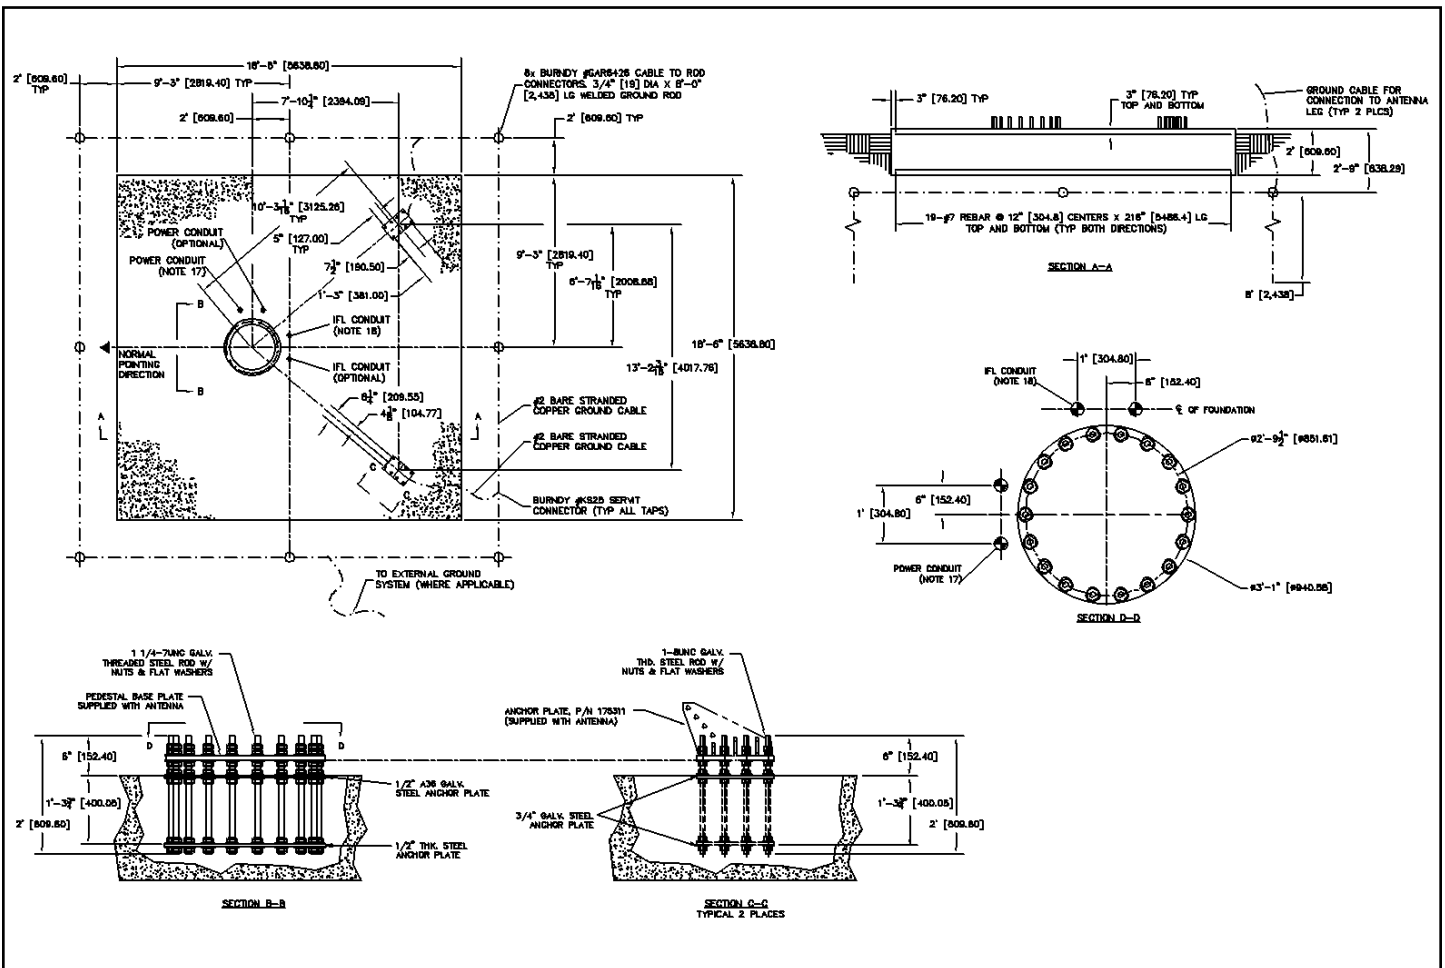

Figure 1
- Foundation should be dimensioned as detailed in Figure 1.